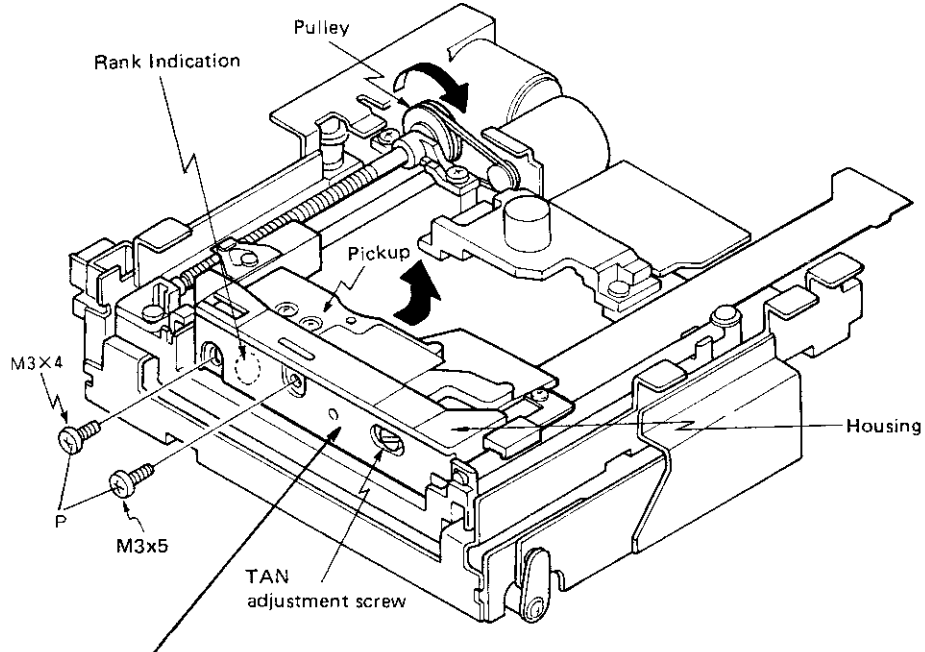

Fig. 32
- Mechanism unit and pickup combinations (Refer to Fig. 32 and 34 concerning ranks.)